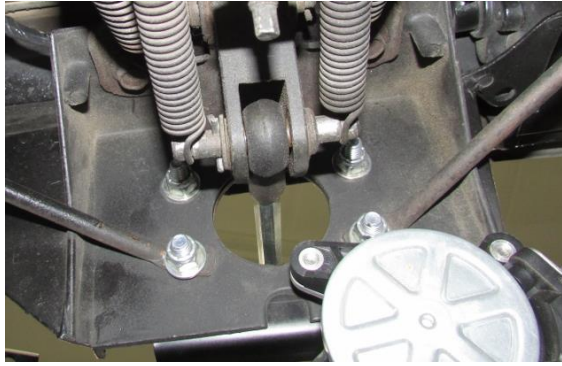

Figure 15 – Re-install Springs on Pivot Pin
16. Using a pair of needle nose pliers, re-attach the springs that were removed in step 3 back onto the pivot pin (Figure 15). **NOTE:** Wear safety glasses when re-installing the springs. Make sure the springs are in their grooves on both ends of the springs. Repeat steps 7 through 16 on the opposite side of the vehicle.